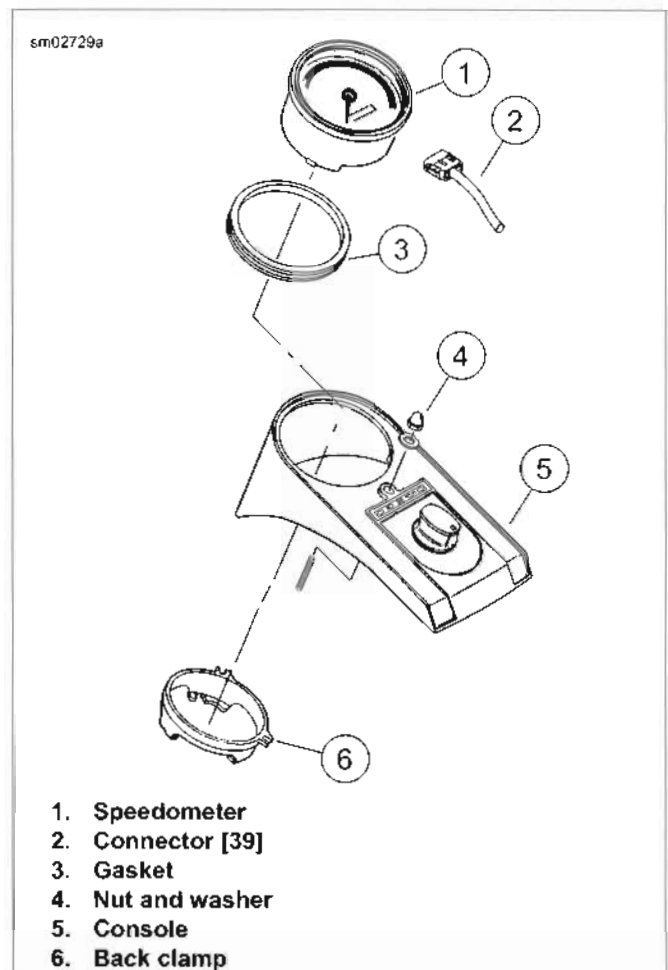
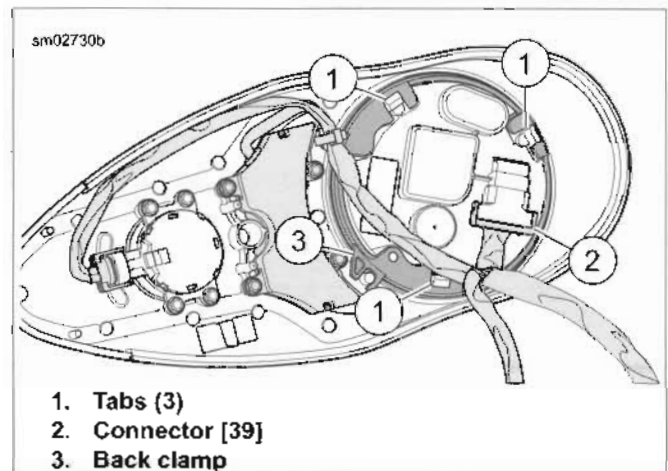

Figure 7-84. Speedometer: All But FXSB (Typical)
Figure 7-85. Connector [39] (Typical)
1. See Figure 7-84. Remove nut and washer (4) and lift console (5) from fuel tank.
3. Press on connector tab and disconnect connector [39] (2) from speedometer under console.
4. See Figure 7-85. Pry between three tabs and speedometer with a screwdriver to raise and release back clamp from speedometer. Remove back clamp from speedometer.
5. See Figure 7-84. Remove speedometer from console.
6. Remove gasket (3) from speedometer.
1. See Figure 7-84. Install gasket (3) to speedometer.
2. Position speedometer in console (5).
3. See Figure 7-85. Press on back clamp (3) until three tabs engage on back of speedometer.
4. See Figure 7-84. Connect connector [39] (2) to speedometer under console.
5. Remove shop rags. Attach console to fuel tank with nut and washer (4). Tighten to 84-132 in-lbs (9.5-14.9 Nm).